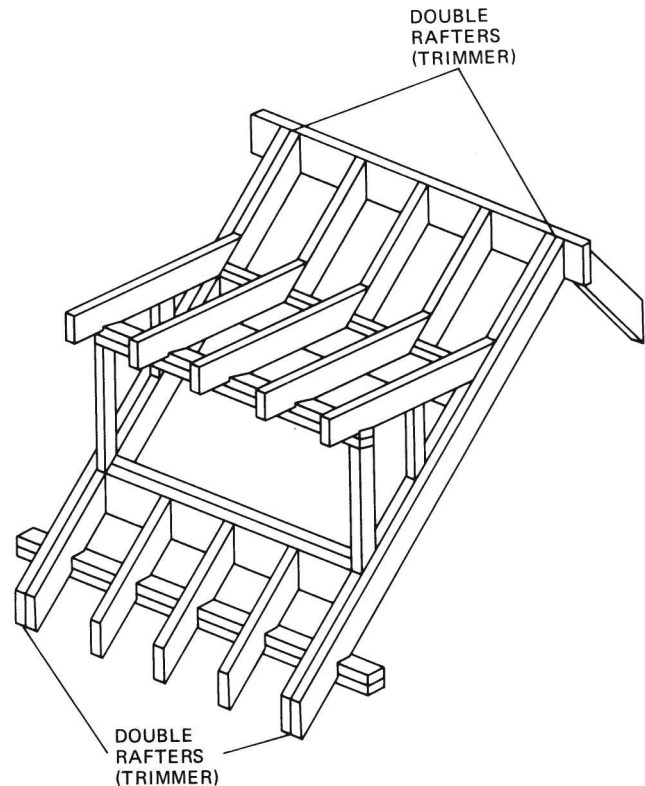

Fig. 7-78 Shed-type dormer.
1. Dormers with flat, sloping roofs that have less slope than the roof in which they are located. This is called a *shed-type dormer* (Fig. 7-78).